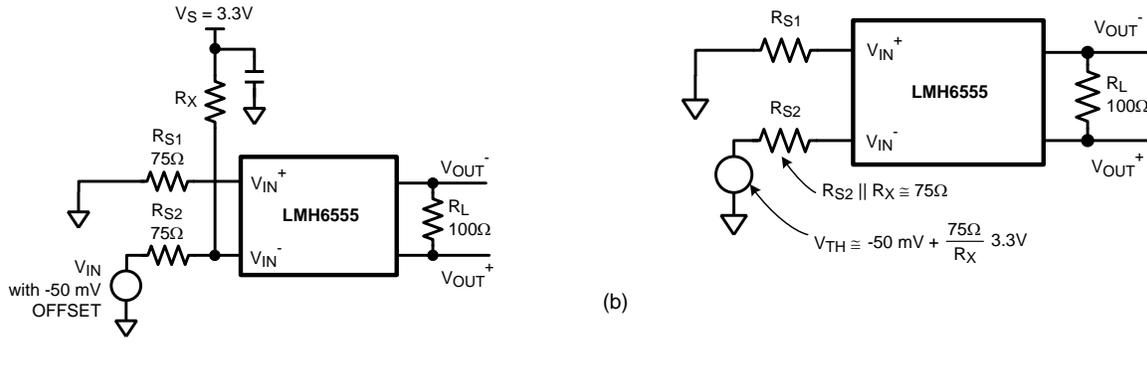

Figure 33. Offset Correction Example ($R_S = 75\Omega$)
Consider the case of a more general offset correction application, shown in Figure 33\(a\), where $R_{S1} = R_{S2} = 75\Omega$ and V_{IN} has a built-in offset of -50 mV. It is necessary to shift the differential output offset voltage of the LMH6555 to 0 mV. Figure 33\(b\) is the Thevenin equivalent of the circuit in Figure 33\(a\) assuming $R_X \gg R_{S2}$.
- V_{IN_OFFSET} is the source offset shown as -50 mV in Figure 33\(a\) (22)